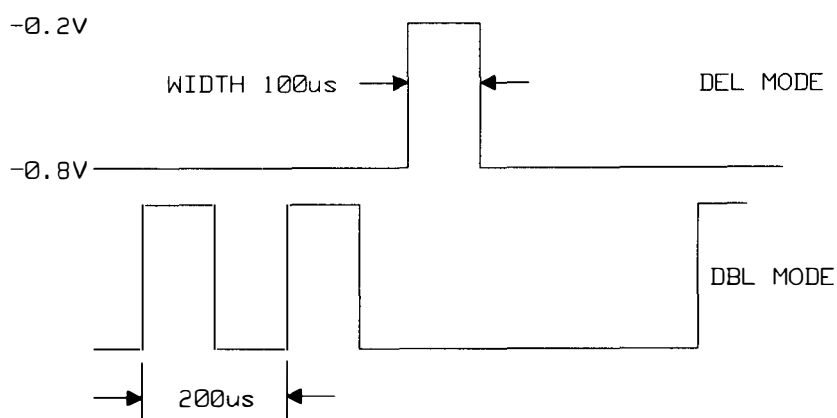

Figure 10.3-15. Width Generator output
4. Check the signal being sent to the slope generator IC at TP3 against Figure 10.3-15.